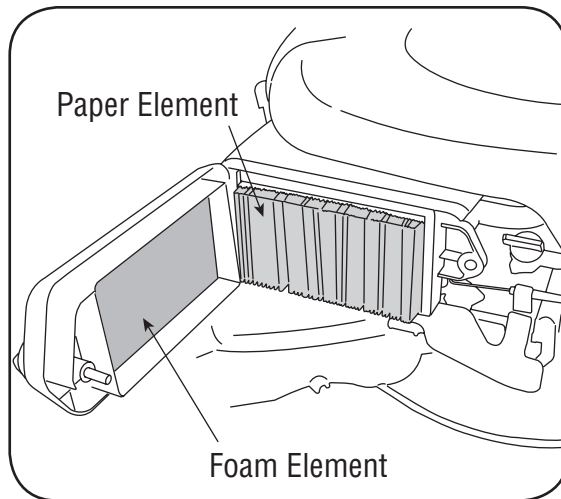

Figure 10-2: Servicing the air cleaner.
1. Remove the wing bolt and the air cleaner cover. Remove the elements and separate them. See Figure 10-2. Replace paper element when dirty or damaged. Replace foam element when damaged.